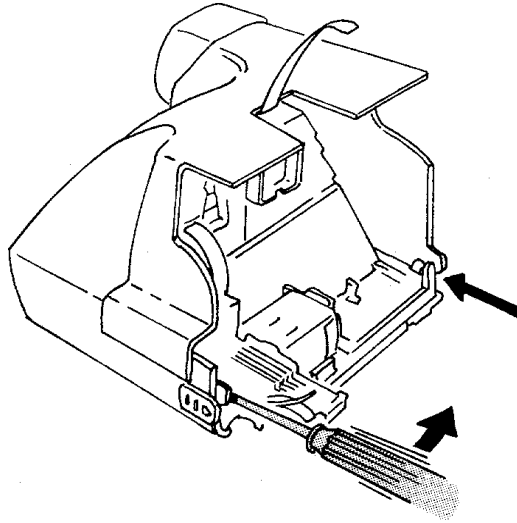

Fig. 13 Removing the Cone from the Camera Body
13. To remove the Cone, insert a flat blade screwdriver at the locations shown in Fig. 13, springing out the sides of the Body slightly. This frees the Cone from the catches inside the Body. Lever the Cone forward, out of the Camera Body. The freed Release Button will drop out.